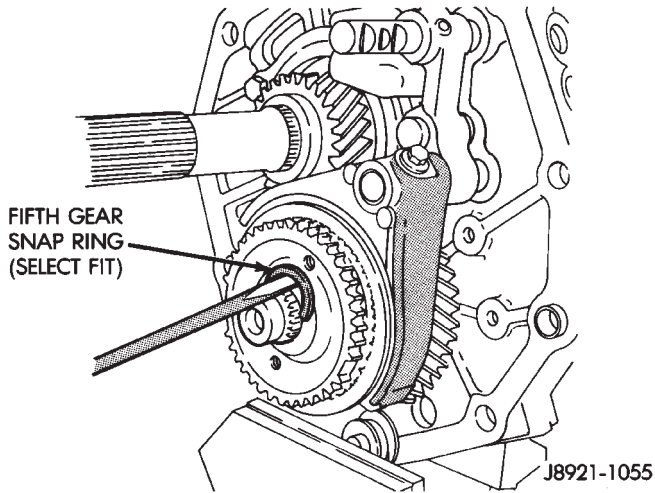

Fig. 29 Removing Fifth Gear Snap Ring
(3) On AX 4, remove counter gear nut and oil slinger. On AX 5, remove select fit snap ring that secures fifth spline gear and counter fifth gear on shaft (Fig. 29).